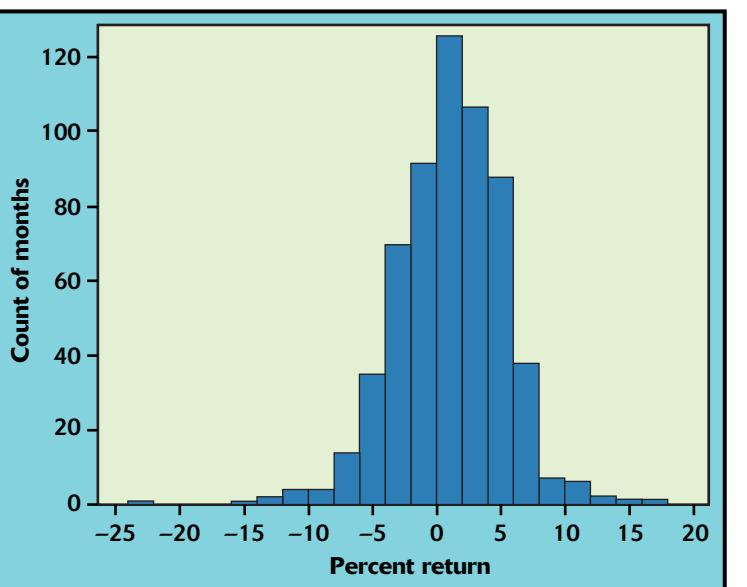

FIGURE 1.5 The distribution of monthly returns for all U.S. common stocks in the 600 months from January 1951 to December 2000, for Exercise 1.9.
- 1.9 **Returns on common stocks.** The total return on a stock is the change in its market price plus any dividend payments made. Total return is usually expressed as a percent of the beginning price. Figure 1.5 is a histogram of the distribution of the monthly returns for all stocks listed on U.S. markets for the years 1951 to 2000 (600 months).⁹ The low outlier is the market crash of October 1987, when stocks lost more than 22% of their value in one month.